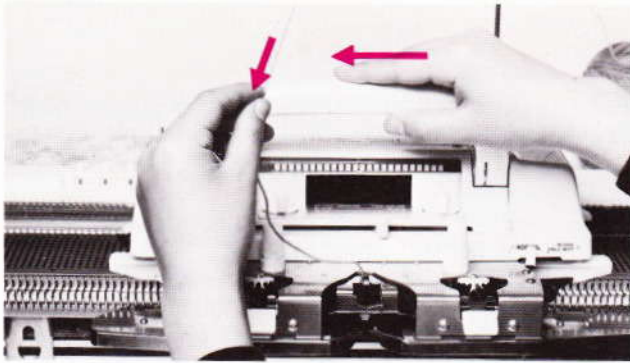

Fig. 41
- Push the carriage slowly from right to left, at the same time slackening the yarn so that the "zig-zag" of the first row is even (fig. 41).
- Push the carriage slowly from right to left at the same time slackening the yarn (fig. 41, page 18).